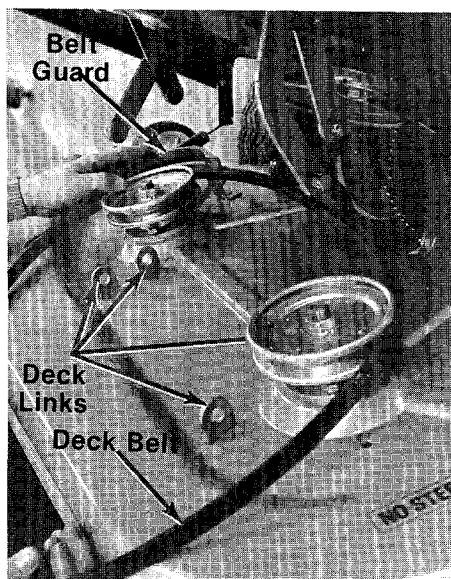

FIGURE 31.
6. Remove the front four deck links from the cutting deck. See figure 31.
7. Remove the belt guards from both deck pulleys. See figure 31.
7. Tip the deck down as shown in figure 31.